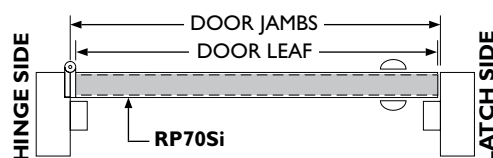
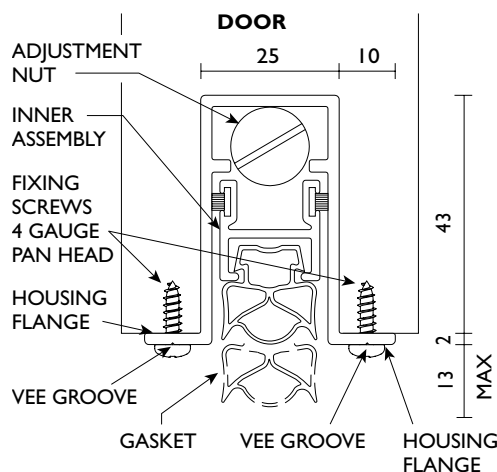
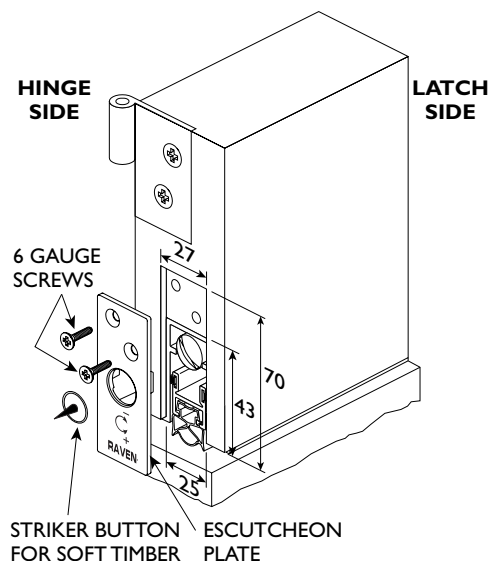
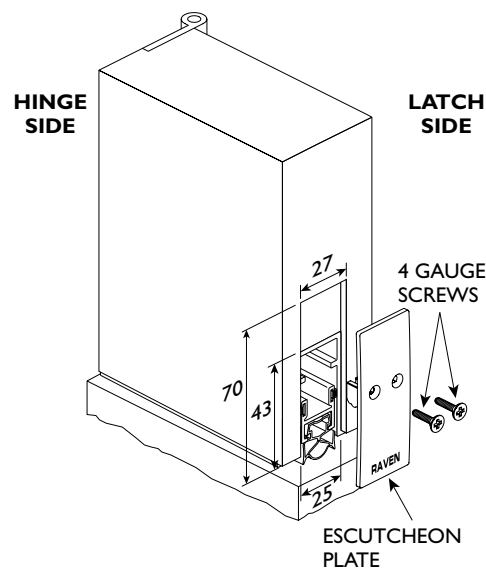

FIG.2
FIG.3
FIG.4
FIG.5
- STEP 2** Machine cut RP70Si less 5mm to allow morticing of escutcheon plates. Cut back latch side only. Remove any burrs. (FIG.1 & FIG.3) Cut gasket with a sharp wet knife. (FIG.2)
- STEP 3** Drill mounting holes in housing flanges along vee grooves to suit 4 gauge pan head screws supplied. (FIG.2)
- STEP 4** Wind adjustment nut clockwise until it returns fully back into housing. (FIG.2)
- STEP 5** To allow for escutcheon plates, **centre** RP70Si in door bottom with adjustment nut on **hinge** side. Screw fix with 4 gauge pan head screws supplied. (FIG.2)
- STEP 6** Fit morticed escutcheon plate **with the large hole** to hinge side. Drill pilot holes to suit 6 gauge countersink screws supplied to prevent timber splitting. (FIG.3) **Note:** Pull down inner assembly by a few millimetres when fitting escutcheon plates. (FIG.5) Do not use a powered driver.
- STEP 7** Fit morticed escutcheon plate **without large hole** to latch side using 4 gauge countersink screws supplied. (FIG.4) **Note:** Pull down inner assembly by a few millimetres when fitting escutcheon plates. (FIG.5) Do not use a powered driver.